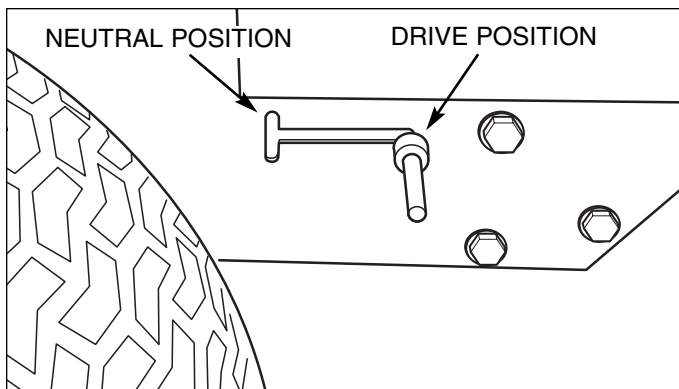

Figure 1. Hydraulic Release Rod
To test if adjustment is necessary, first move the hydraulic release rod into the neutral position (see Figure 1). Push on the mower's handle bars while slowly pulling down on the operator presence handles.
1. Move the hydraulic release rod into the neutral position. (See Figure 1)